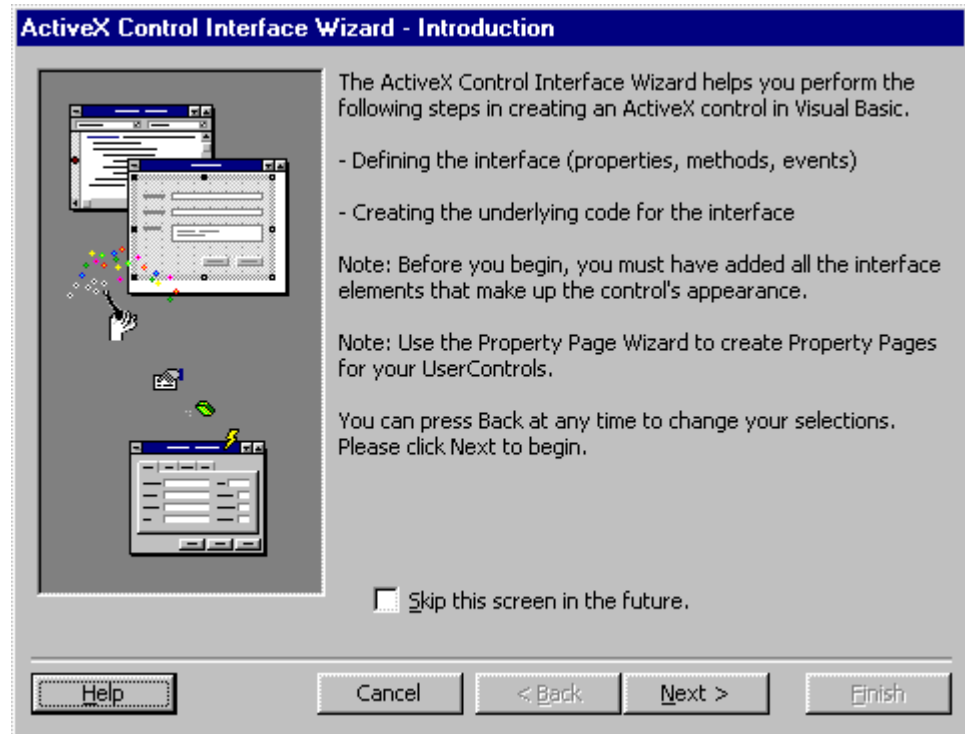

Figure 10. Introduction for the ActiveX Control Interface Wizard.
2. **Start the Wizard:** you'll see the introductory page (unless you've told it not to show you this page, previously). Figure 10 shows the first page of the wizard.